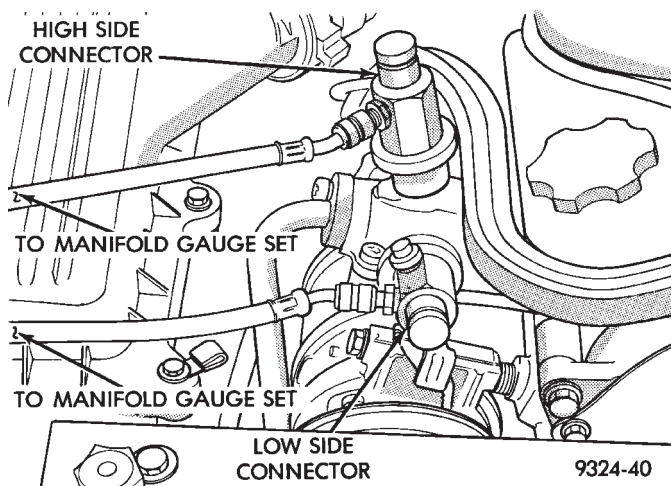
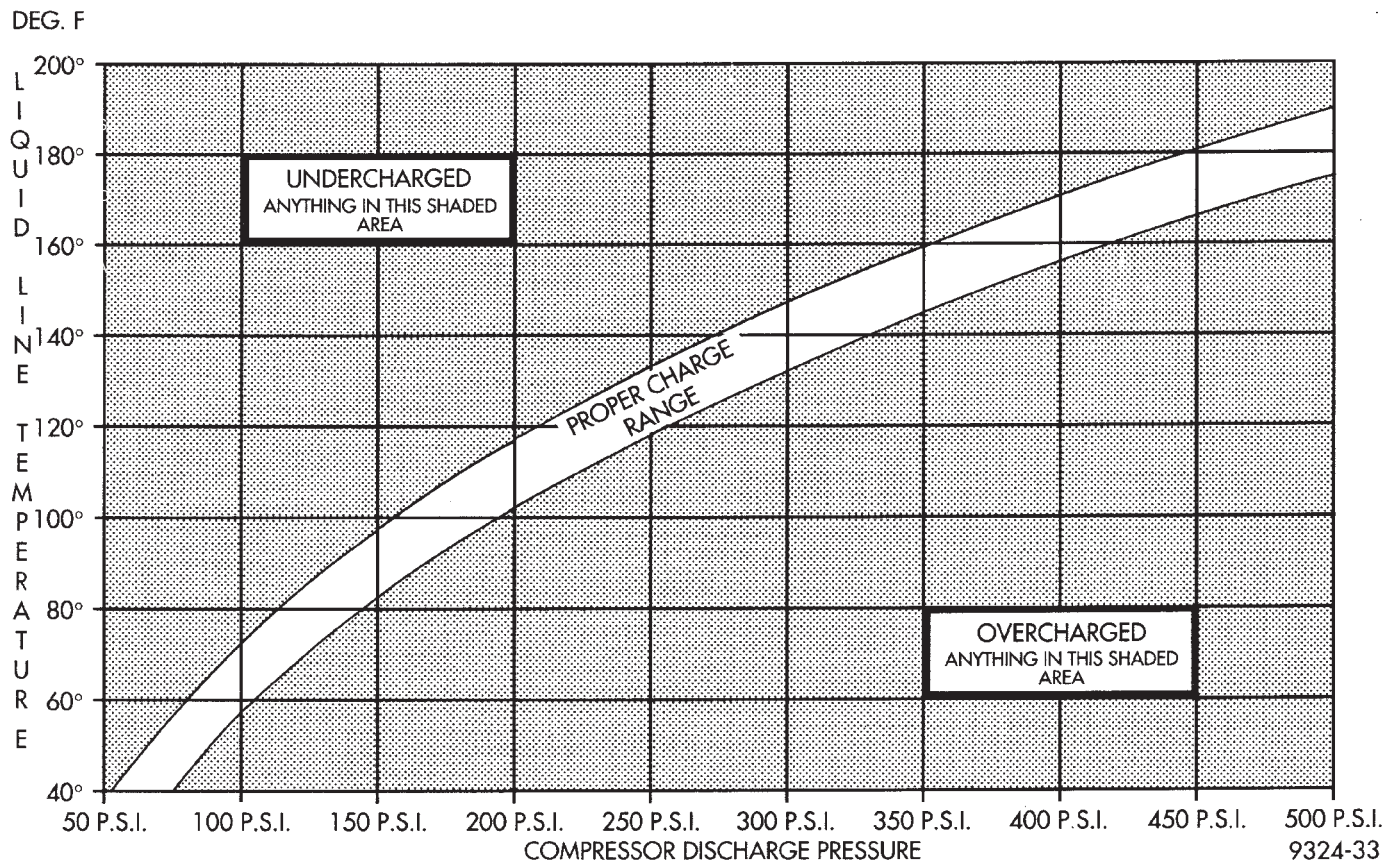

**Fig. 18 Manifold Gauge Hook-up**
Fig. 19 Charge Determination Graph
- Using a manifold gauge set (Fig. 18), a thermocouple and the Charge Determination Graph (Fig. 19). It is recommended to use the gauges or reclaim/recycle equipment.
(4) Operate system for a couple of minutes to allow the system to stabilize.
(5) Set system pressure to about 1793 kPa (260 psi) by blocking off the airflow to the front grill area. This will maintain a constant pressure and stop the cooling fans from alternating between high and low speeds.
(6) Observe Discharge pressure and Liquid line temperature. Using the Charge Determination Graph determine where the system is currently operating (Fig. 19). If the system is in the undercharged region, ADD 0.057 Kg. (2 oz.) to the system and recheck readings. If the system is in the overcharged region, RECLAIM 0.057 Kg. (2 oz.) from the system and recheck readings. Continue this process until the system readings are in the proper charge area on the Charge Determination Chart (Fig. 19).
(7) The scan tool procedure does not require the Charge Determination Graph. The correct liquid line temperature range is calculated by the scan tool automatically.